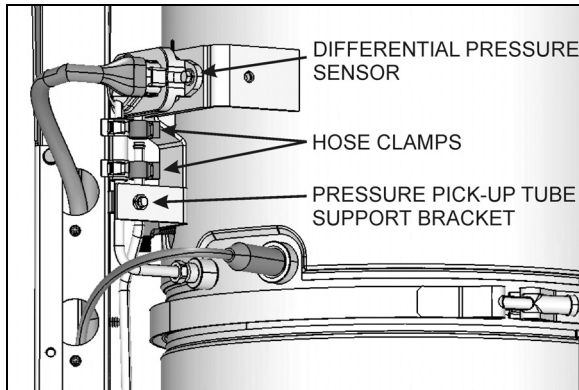

FIGURE 7: PRESSURE DIFFERENTIAL SENSOR AND TAKE UP TUBES (VOLVO D13 ONLY) 04026
7. **With Volvo D13 engine;** Dismount the differential pressure sensor and detach the two hoses from the differential pressure sensor. Detach the two pressure pick-up tubes from the support bracket. This will help to clear the way off for removal of the DPF cartridge from the compartment (figure 7).